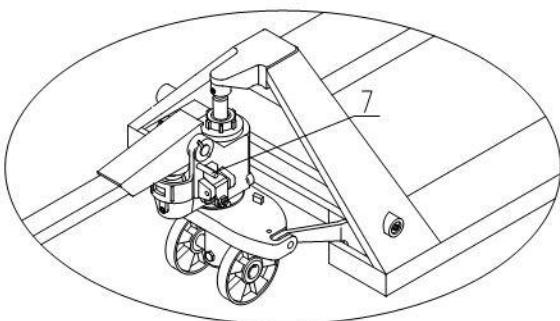

Fig. 3
- 3.6 See fig. 3. Turn the hand grip to the level position, pull out the pin (7) and save it with care for next use.